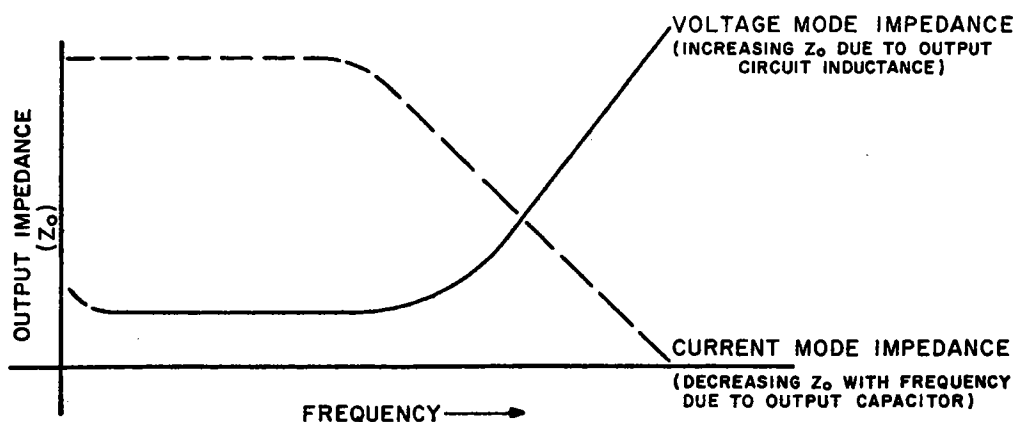

FIG. 3-1 TYPICAL OUTPUT IMPEDANCE VS. FREQUENCY PLOT FOR STABILIZED D-C SOURCES.
- 3-15 **LOAD WIRE SELECTION.** The stabilized d-c power supply is definitely not an ideal voltage or current source with zero output impedance (VOLTAGE MODE) or infinite output impedance (CURRENT MODE) at all frequencies: All **voltage** sources have some amount of impedance which **increases** with frequency and all **current** sources have an output impedance which **decreases** with frequency (refer to FIG. 3-1).